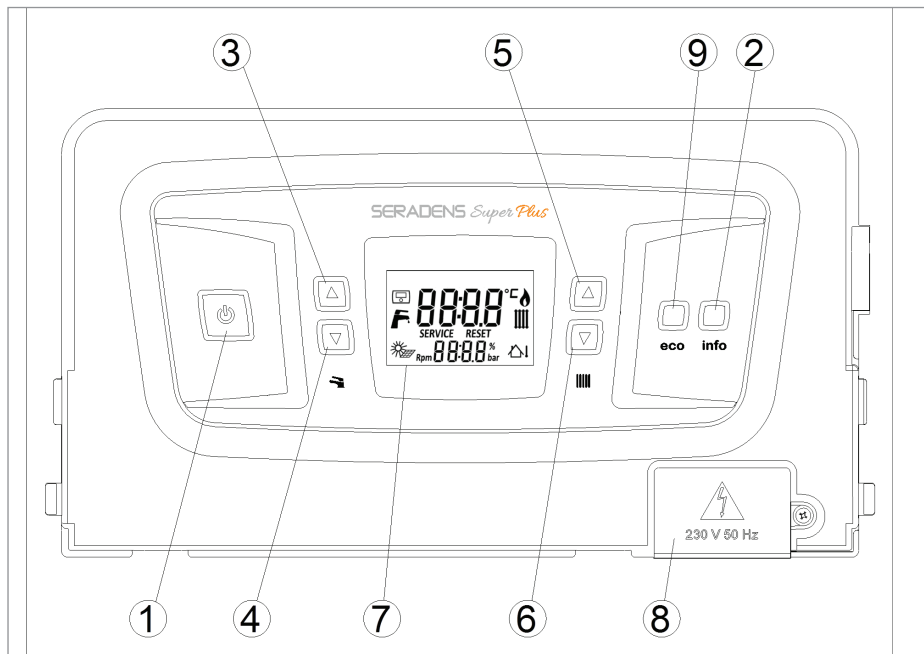

Figure 1. Control panel
You can activate the user info menu simply pressing the Info key (2) (Figure 1) for a time period of 2 seconds. You can see many information and values alternately in the user info menu. To display sequentially all the other variables supported, press the DHW temperature increase (3) and decrease (4) keys.
Press key **(1)** (Figure 1) to operate your boiler in “SUMMER” mode and see only the tap symbol () continuously shown on the display. At this mode combi boiler only operates for the domestic hot water (DHW) system. The automatic ignition system lights the burner every time if there is a demand for DHW. The existence of the flame is shown with a flame symbol () on the display. During DHW usage, the tap symbol () on the display blinks.
In order to operate the combi boiler in “WINTER” mode, press key **(1)** (Figure 1) and see tap symbol () and radiator symbol () continuously shown on the display. At this mode combi boiler operates for the domestic hot (DHW) and heating (CH) systems. The automatic ignition system lights the burner every time there is a demand for both. The existence of the flame is shown with flame symbol () on the display. In this case, the tap symbol () on the display blinks when system operates for DHW and radiator symbol () blinks when system operates for CH.
In order to operate the combi boiler in “ONLY HEATING” mode, press key **(1)** (Figure 1) and see only radiator symbol () continuously shown on the display. At this mode combi boiler only operates for heating (CH) system. The automatic ignition system lights the burner every time there is a demand for CH system. The existence of the flame is shown with flame symbol () on the display. In this case, radiator symbol () blinks when system operates for CH.
The appliance can also be operated in economy mode, whose conditions are previously defined. When the user pushes ECO key (9) (Figure 1), system sets the heating water temperature to 50°C automatically, this is the optimum value between condensing and room temperature comfort. If the appliance's parameter settings were done in reference to low temperature range (underfloor heating), then heating water temperature in ECO mode is 38°C. Domestic hot water outlet temperature is set to 45°C for both low and normal temperature ranges.
- When electricity is supplied to the appliance, "OFF" word can be seen on the display. Pushing mode button (Figure 1) leads to change the operating mode, every push changes mode sequentially between SUMMER-WINTER-ONLY HEATING-OFF.
- Check that there are no flashing numbers on the display **(7)** (Figure 1) (also see Section 2.9). If code E04 appears on the display **(7)** this denotes that there is no water in the boiler. Consequently, fill the system as described in Section 2.7.
The heating temperature is regulated by using keys **(5)** and **(6)** (Figure 1).
DHW temperature is regulated by using keys **(3)** and **(4)** (Figure 1).
This paragraph contains a list of error codes that the boiler may generate on the display **(7)** (See Figure 1) together with the relative indications and the operations that the user can carry out to reset the boiler.
- Turn off and then turn on the appliance using button **(1)** (Figure 1) on the control panel. Let the system ignite by itself, if **E01** error remains, retry to turn off and turn on the appliance once again. This action is taken in order to be sure if the gas in the pipes reached to the appliance.